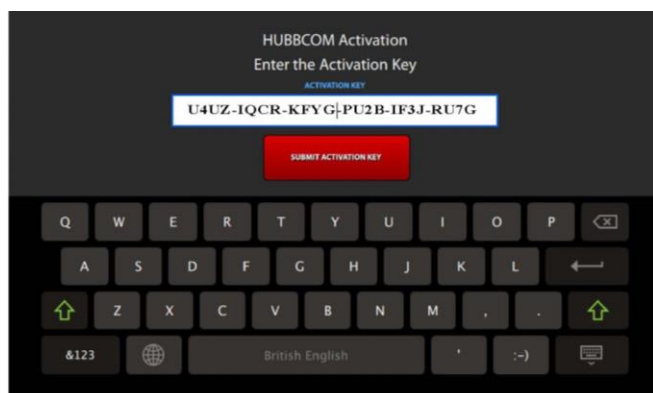

Figure 6. Device License Key Entered
4. Enter the device key provided on the device's activation label (see Figure 5 and Figure 6).
5. Press the SUBMIT ACTIVATION KEY button on the screen (see Figure 6).